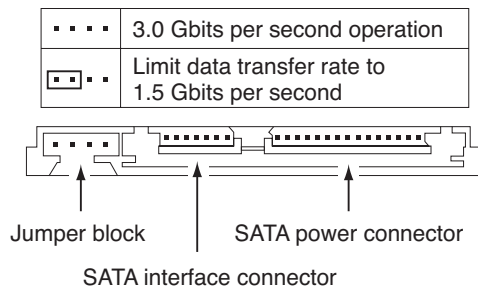

Figure 4 Serial ATA jumper block and connectors
- Configure the jumper block with a jumper as shown in Figure 4 below to limit the data transfer rate to 1.5 Gbits per second (and leave the drive connected to the SATA-equipped motherboard or host adapter that doesn’t support autonegotiation) or
- Install a SATA host adapter that supports autonegotiation, set the drive jumper block set to “3 Gbits per second operation” (see Figure 4 below), and connect the drive to that adapter. This option has the benefit of not limiting the drive to a 1.5 Gbits/sec transfer rate.